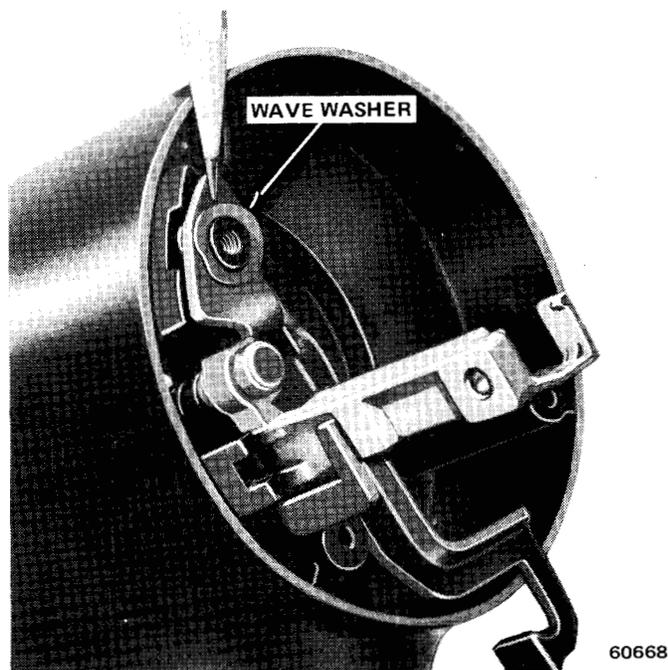

Fig. 11-14 Wave Washer Position
(18) Remove wave washer from release lever pivot and remove release lever and spring (fig. 11-14).
- (7) Coat wave washer with multi-purpose grease and install on post over release lever (fig. 11-14).